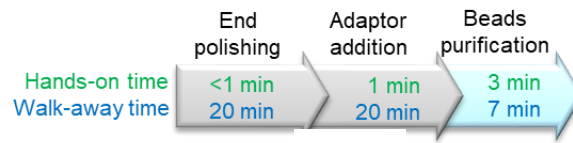

Fig. 1
- Simple: three steps in one tube (Fig.1)